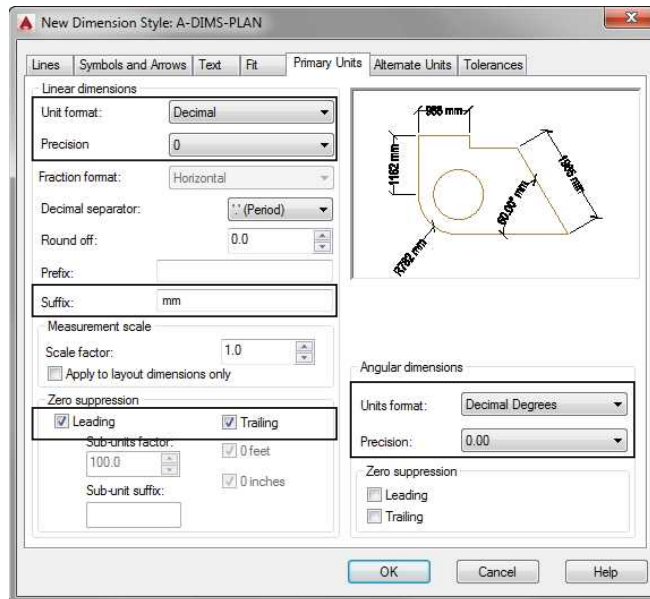

FIGURE 12.10 The Primary Units tab after changes have been made using metric units
1. Click the Primary Units tab, and look at Figure 12.10 to see how it's organized. As you can see in the figure, the Primary Units tab is divided into two main groups: Linear Dimensions on the left and Angular Dimensions on the right. Each of these groups has several types of settings.
After these changes, the Primary Units tab looks like Figure 12.10.